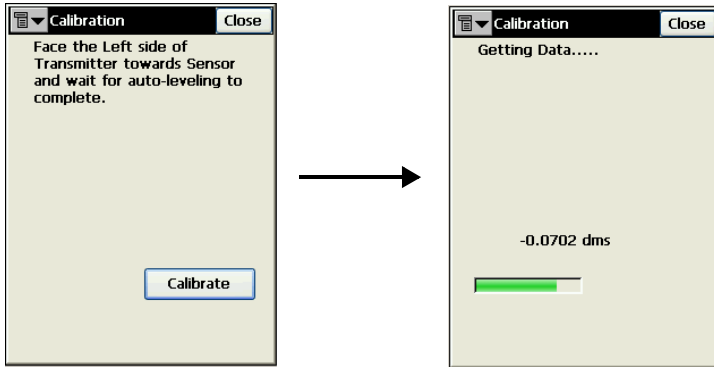

Figure A-17. Turn Transmitter to Left and Collect Data
- Turn the transmitter 90° so the left side faces the transmitter. tap **Calibrate** (Figure A-17).